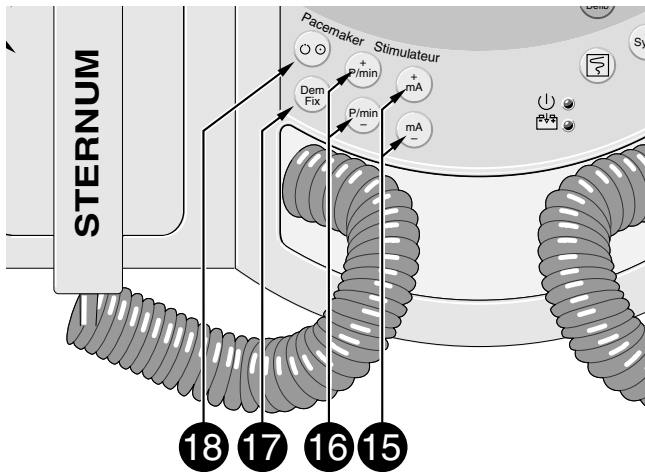

Figure 10-7. Pacemaker operating controls
- * Press the  button, to switch on the pacemaker (Figure 10-7). The pacemaker defaults to the demand mode and to a pacing rate of 60 BPM (selectable).